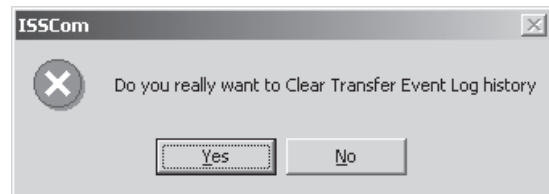

Figure 3-29 Transfer Event Log Clear History Command Confirmation Screen
- From the ISScom Main Screen menu select **System/Transfer Event Log/Clear History**. ISScom will display the Clear Sequence of Events Records confirmation screen (Figure 3-29).